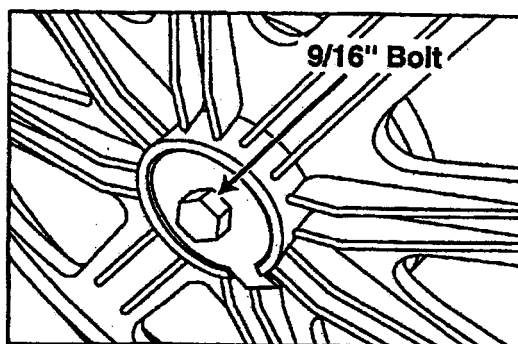

Figure 2-42
- Remove the bolt and the spider shaft will be exposed. Carefully slide the pulley off the spider shaft, using a "rocking/side-to-side" motion. If the pulley has a snug fit, use your Spanner Wrench to apply enough leverage to pry the pulley off the shaft (*Figure 2-42*).